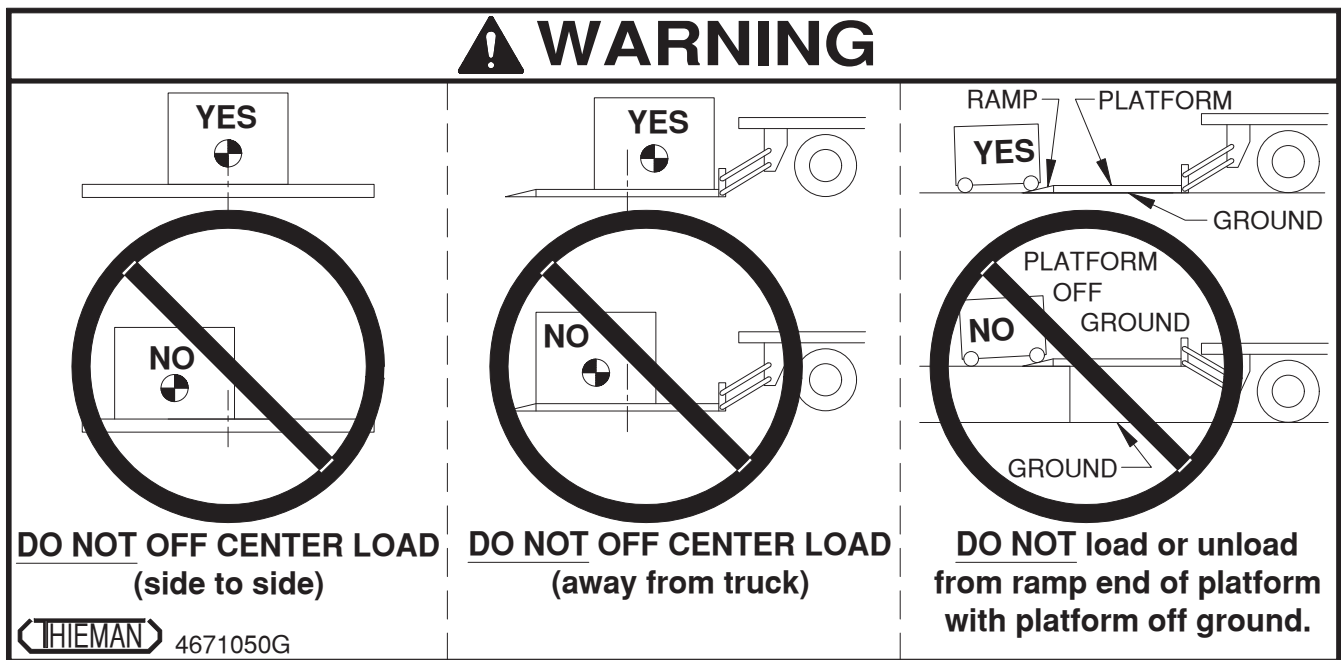

FIG. 1
10. NEVER off-center the load on the platform, from side to side or away from truck as this may overload the liftgate. The center of weight of the load should NEVER be placed beyond the center of the platform load surface, away from truck. Loads should be placed close to platform edge nearest truck. See figure 1.